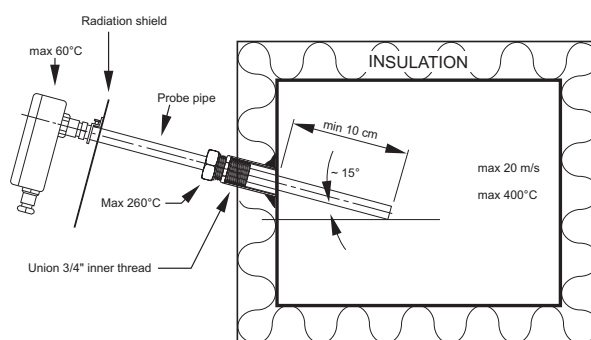
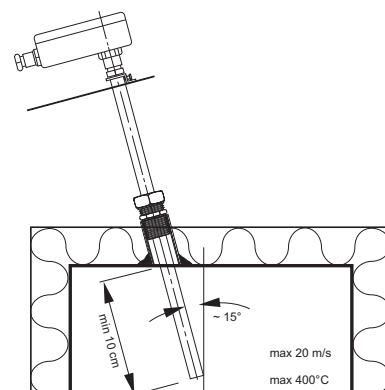

Figure 2
Figure 3
1. Fit a 3/4" union on the flue duct after the boiler. Make sure the union extends outside of the insulation to facilitate installation of the probe. The probe should be installed at a 15° angle to the horizontal plane, so that the tip of the probe points slightly downward (see figure 2), alt. top mounted (see figure 3). This is to protect the probe from condensation water.